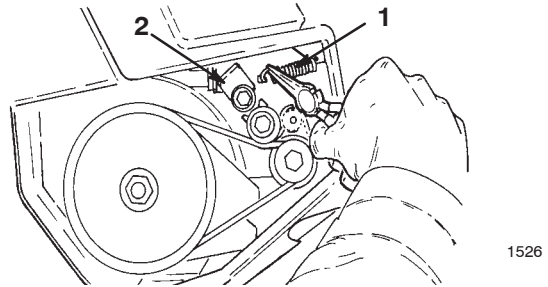

Figure 18
2. Remove the idler spring from the idler arm (Fig. 18).
7. Assemble the idler spring (Fig. 18), making sure the idler pulley rides on the belt.